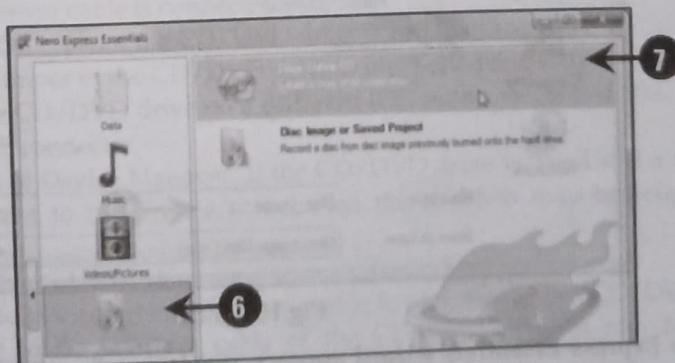

Fig.HD-8.29
The Nero Express Essentials wizard appears (Fig.HD-8.29).
6. Select the Image, Project, Copy option from the left pane in the Nero Express Essentials wizard (Fig.HD-8.29).
7. A list of options appears on the right pane in the Nero Express Essential wizard (Fig.HD-8.29).
7. Select the Copy Entire CD option in the Nero Express Essentials wizard to create an image of a CD, as shown in Fig.HD-8.29: